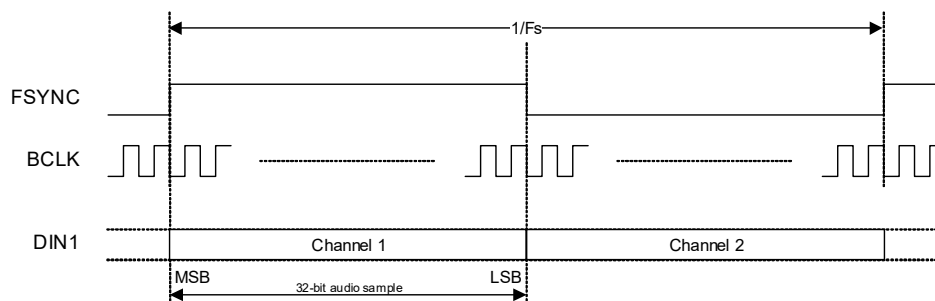

Figure 4-11. Left-Justified Data Format
- If Left-Justified data format is selected, the ASP supports audio channels 1–2 as shown in Fig. 4-11. The minimum BCLK rate is 64 fs (where fs is the sample rate). A higher BCLK frequency can be used, resulting in unused BCLK cycles between the LSB of one sample and the MSB of the next.